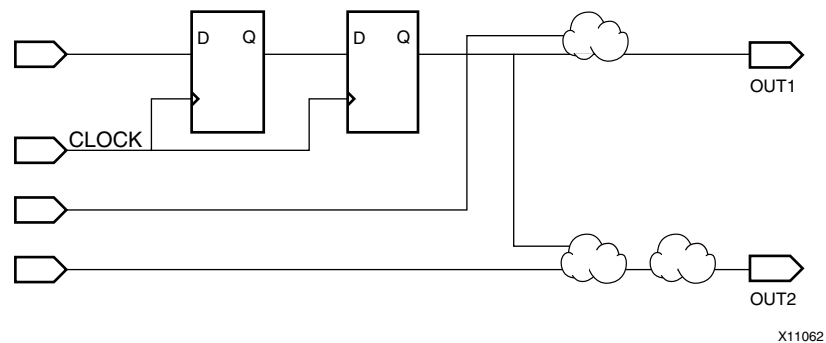

Figure 3-2: TNM on the CLOCK Pad or Net Traces Downstream to the Flip-Flops
- Figure 3-2, TNM on the CLOCK Pad or Net Traces Downstream to the Flip-Flops